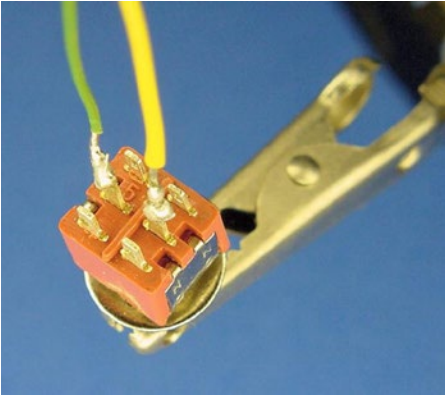

Figure 22-22. Left and right transistor outputs soldered to the switch's center terminals
1. Loop the green wire through the eyelet in a center terminal, twist the wire together, and solder (see Figure 22-22). This is the same technique used to connect wires to the motors.